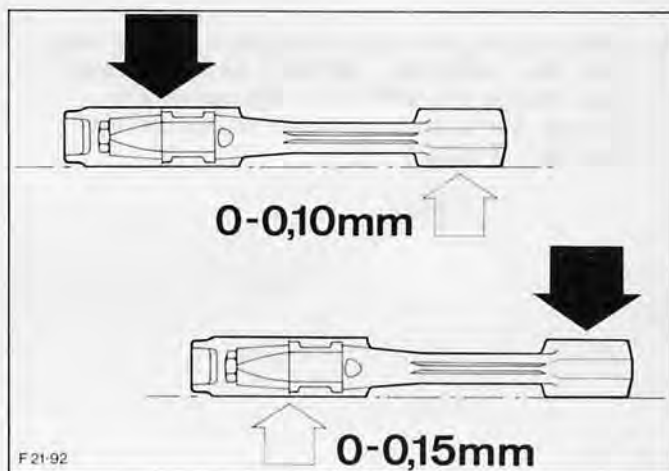

Fig.120. Max. deviation of connecting rod from alignment.
2. Measure up connecting rod on a surface plate using a feeler gauge. See Fig.120. for maximum deviation from alignment.